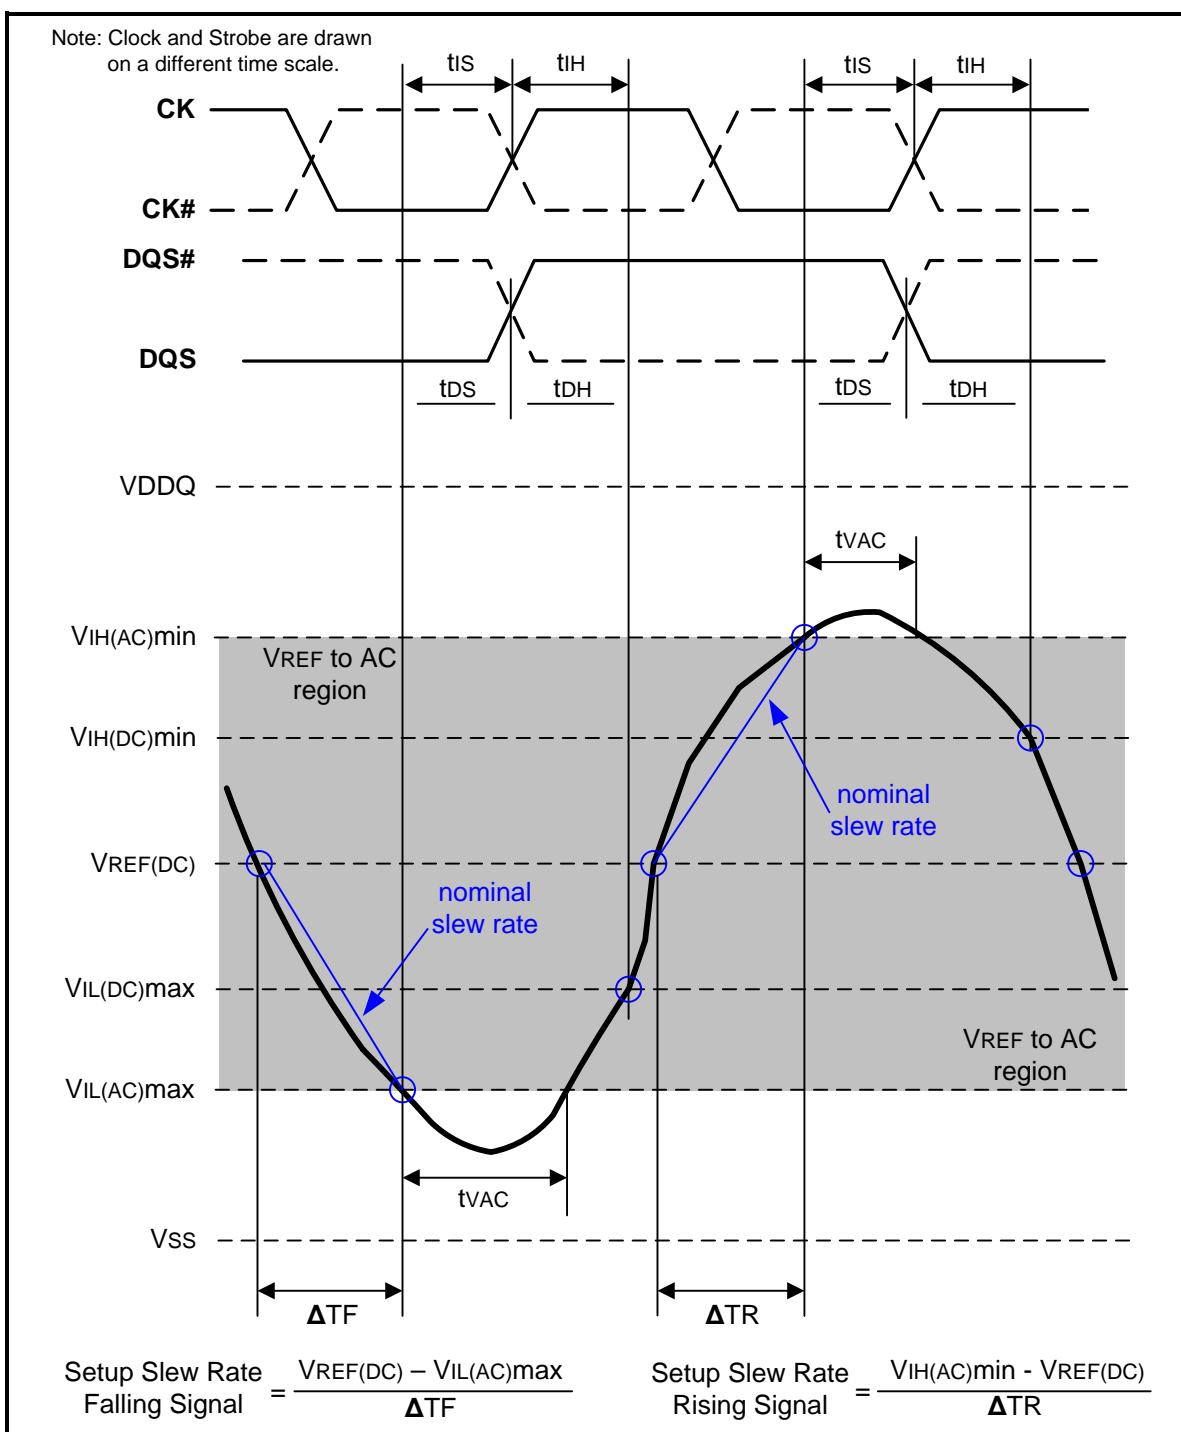
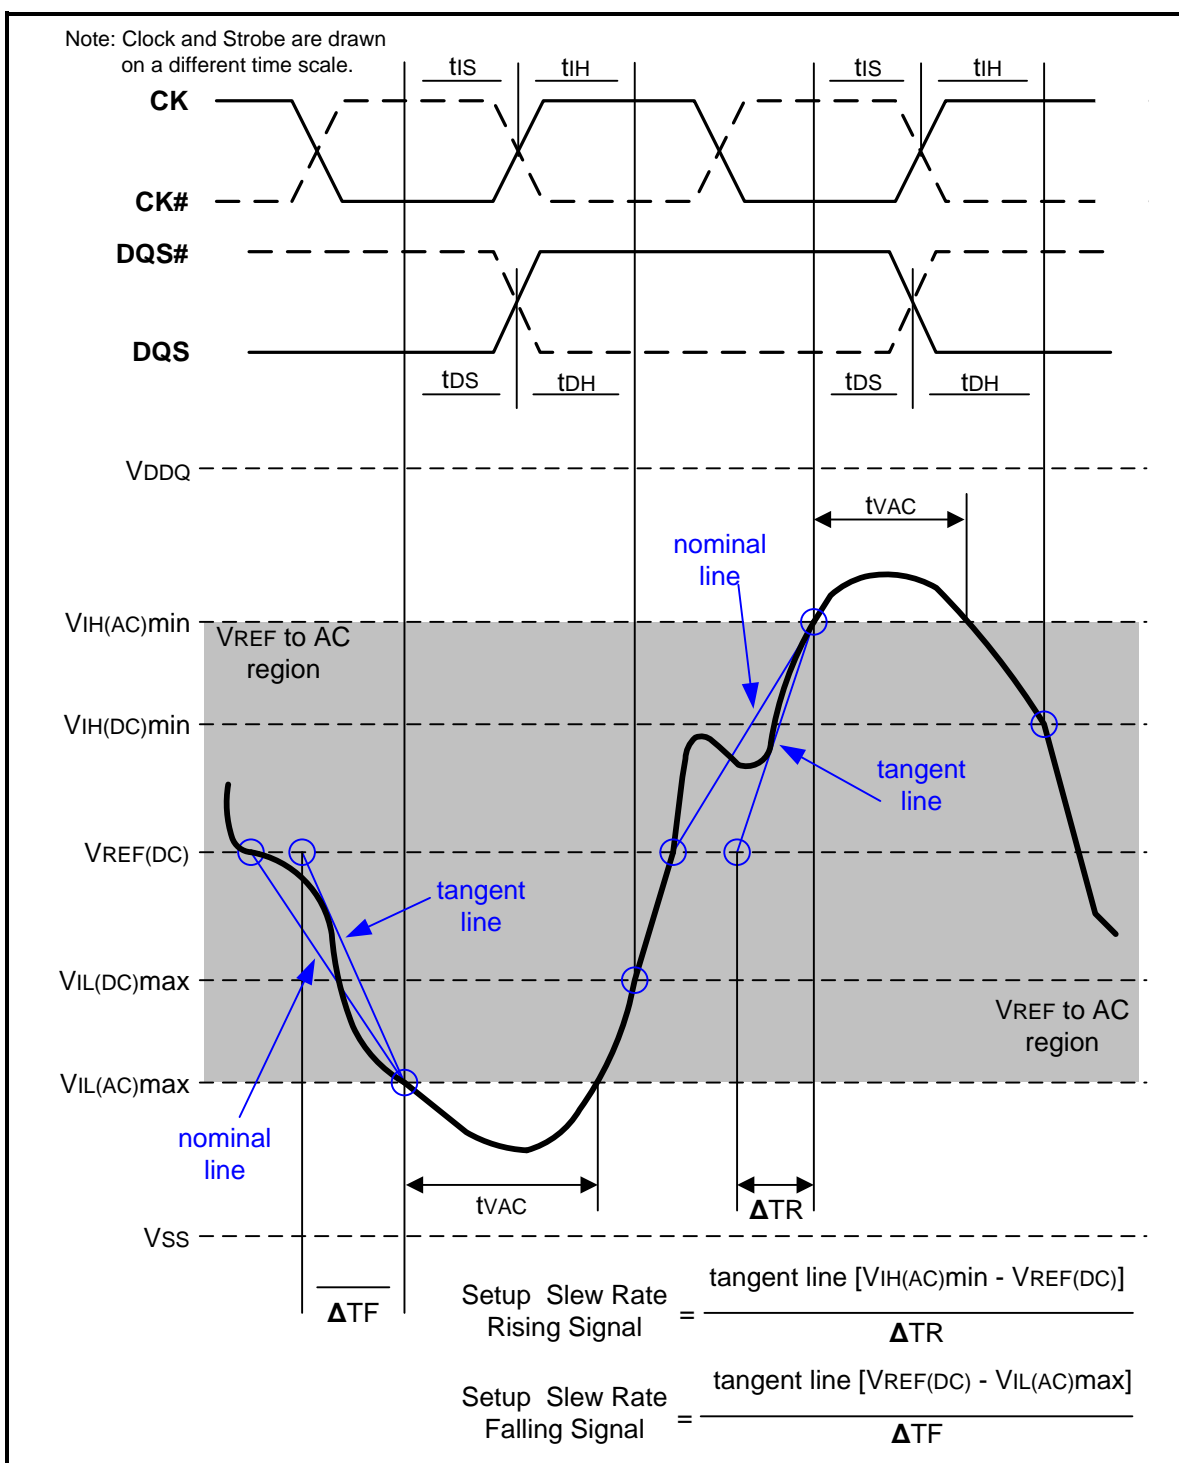

Figure 107 – Illustration of nominal slew rate and tVAC for setup time tDS (for DQ with respect to strobe) and tIS (for ADD/CMD with respect to clock)
Figure 109 – Illustration of tangent line for setup time  $t_{DS}$  (for DQ with respect to strobe) and  $t_{IS}$  (for ADD/CMD with respect to clock)
Setup ( $t_{IS}$ ) nominal slew rate for a rising signal is defined as the slew rate between the last crossing of  $V_{REF}(\text{DC})$  and the first crossing of  $V_{IH}(\text{AC})_{\text{min}}$ . Setup ( $t_{IS}$ ) nominal slew rate for a falling signal is defined as the slew rate between the last crossing of  $V_{REF}(\text{DC})$  and the first crossing of  $V_{IL}(\text{AC})_{\text{max}}$ . If the actual signal is always earlier than the nominal slew rate line between shaded 'VREF(DC) to AC region', use nominal slew rate for derating value (see Figure 107). If the actual signal is later than the nominal slew rate line anywhere between shaded 'VREF(DC) to AC region', the slew rate of a tangent line to the actual signal from the AC level to  $V_{REF}(\text{DC})$  level is used for derating value (see Figure 109).
Setup (tDS) nominal slew rate for a rising signal is defined as the slew rate between the last crossing of VREF(DC) and the first crossing of VIH(AC)min. Setup (tDS) nominal slew rate for a falling signal is defined as the slew rate between the last crossing of VREF(DC) and the first crossing of VIL(AC)max (see Figure 107). If the actual signal is always earlier than the nominal slew rate line between shaded 'VREF(DC) to AC region', use nominal slew rate for derating value. If the actual signal is later than the nominal slew rate line anywhere between shaded 'VREF(DC) to AC region', the slew rate of a tangent line to the actual signal from the AC level to VREF(DC) level is used for derating value (see Figure 109).